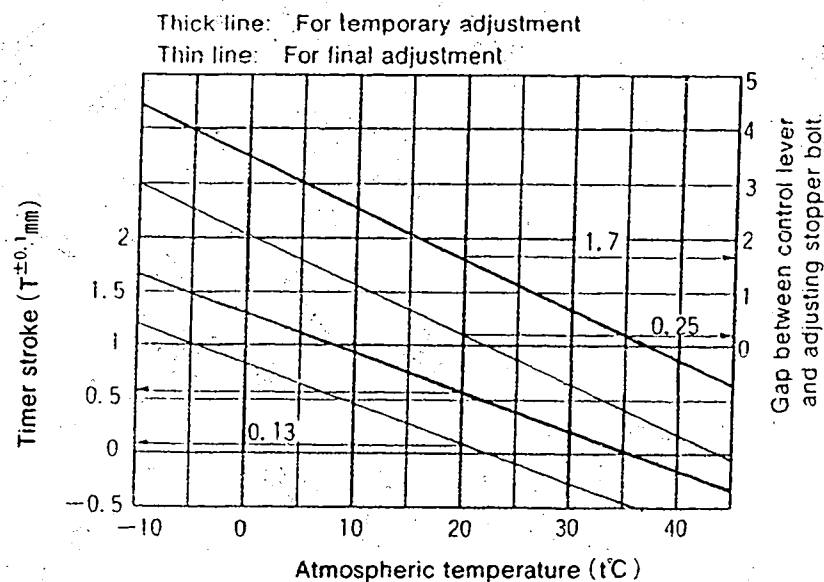

Fig. 2
1. Calculate the timer stroke from Fig. 2 according to the atmospheric temperature at the time of adjustment.
Formula for calculating Fig. 2
1. Calculate the block gauge dimension $g \pm 0.05\text{mm}$ from Fig. 2 according to the atmospheric temperature at the time of adjustment.
2. Insert the block gauge (thickness gauge) selected in Step(1) above between the bracket and the idling stopper bolt.